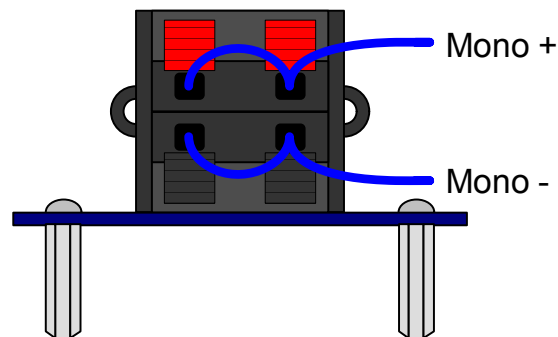

Figure 2. Mono Parallel Full-Bridge Speaker Terminal Configuration
5. Wire the two red-terminal speaker outputs together on the CRD4412 as shown in Figure 2.
6. Wire the two black-terminal speaker output together on the CRD4412 as shown in Figure 2.